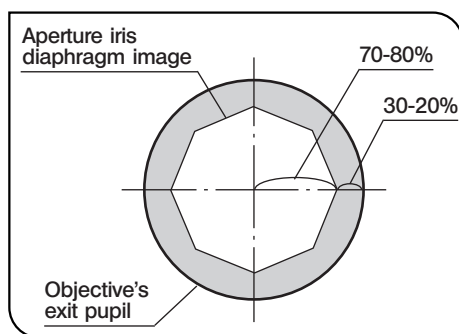

Fig. 36
1 Using the Aperture Iris Diaphragm (Figs. 36 & 37)
- To check the aperture iris diaphragm, remove an eyepiece (and attach the U-CT30 if this is available) and look into the eyepiece sleeve. The aperture iris diaphragm can be seen as shown in Fig. 36. Its aperture can be adjusted by rotating the aperture iris diaphragm lever ①.